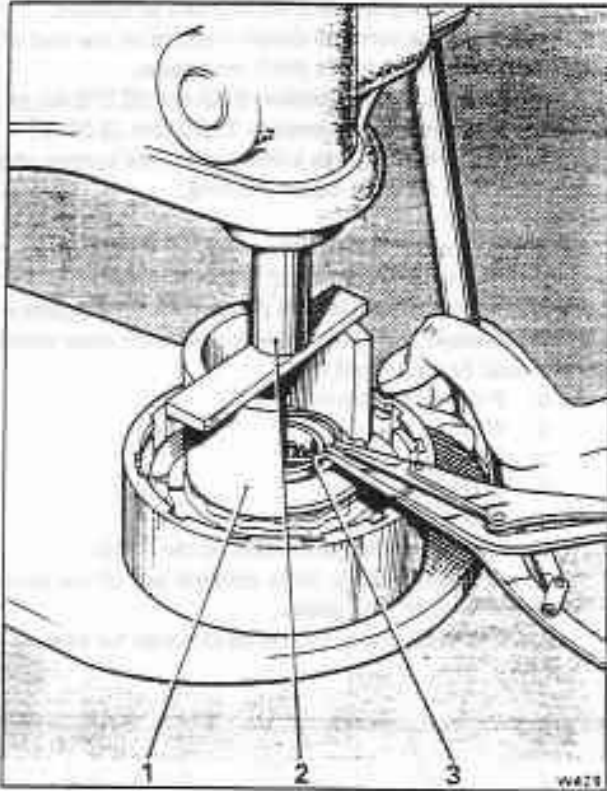

Fig. T18-6 Removing and fitting the forward clutch housing snap ring
5. Compress the clutch return springs until the retaining snap ring is accessible. Remove the snap ring (see fig. T18-6).